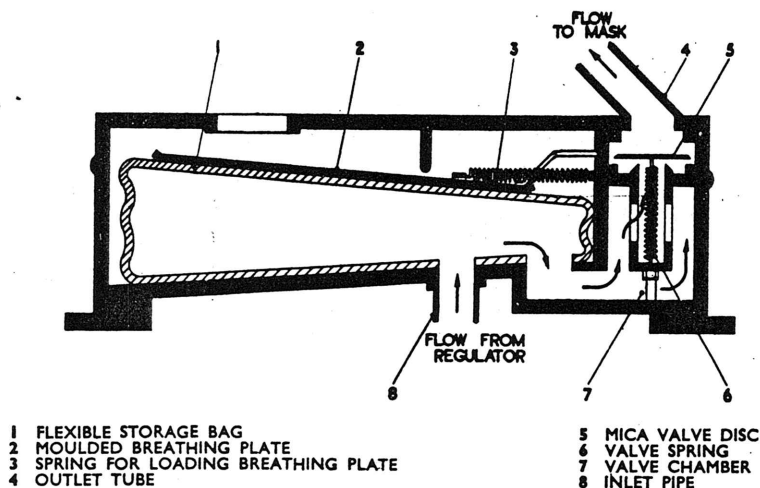

Fig. 2. Diagram showing principle of oxygen economizer
2. The economizer operates as follows:— when the oxygen regulator is turned on, oxygen enters the flexible storage bag (1, *fig. 2*), through the inlet pipe (8). The gas is then stored in the bag under light pressure, imparted by the spring (3) on the breathing plate (2). The mica valve disc (5) is held on the seating by the spring (6), this spring being of a strength sufficient to prevent a flow of oxygen from the bag into the outlet pipe during the period that oxygen is stored in the bag.
3. The outlet pipe (4) leads to the oxygen mask, and the suction created in this pipe when the user breathes in, lifts the valve disc against the action of the spring (6) thereby allowing oxygen to pass from the storage bag to the user.